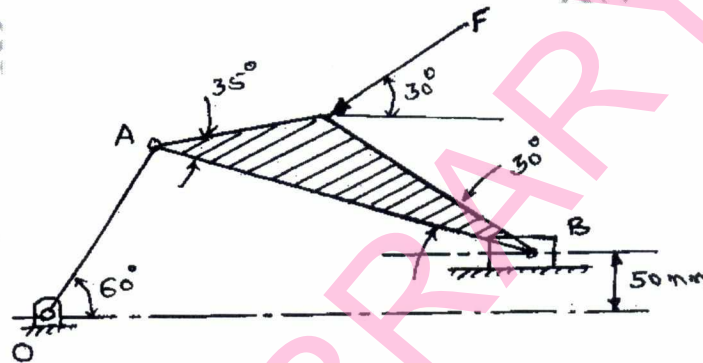

Fig. Q1 (b)
b. For a mechanism shown in Fig. Q1 (b), find the required input torque for the static equilibrium. The lengths OA and AB are 250 mm and 650 mm respectively. $F = 500$ N. (15 Marks)